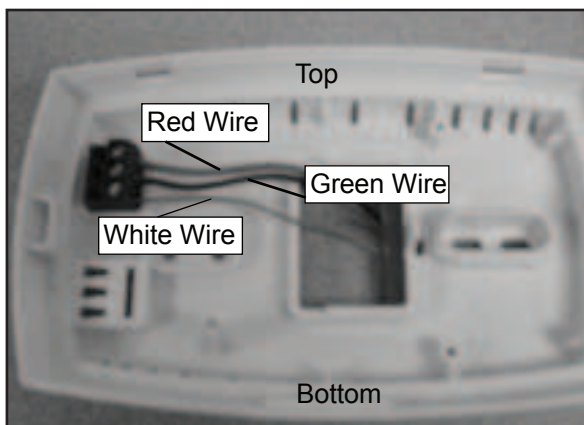

Figure 35.1- Back Side of Wall Control with Cover Off
5. Attach the wall control wire to the thermostat wall control. Follow the directions on **page 35**. Do not pinch the control wires with any staples between the fireplace and wall control. **Figure 35.1 on page 35.**